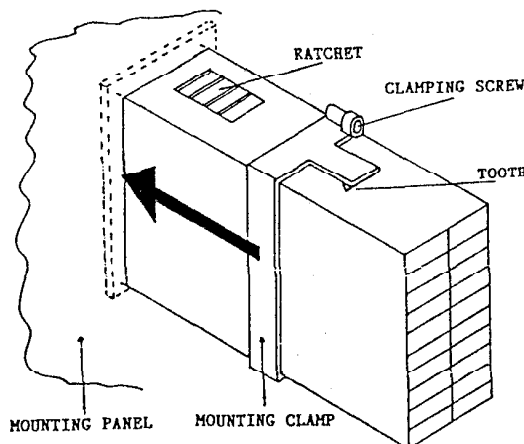

FIGURE 2-2 PANEL-MOUNTING A CONTROLLER
2. Slide the mounting clamp into place on the Controller (see Figure 2-2) and push it forwards until it touches the rear face of the mounting panel. The mounting clamp has teeth which project to the rear and these will engage in ratchets moulded into the top and bottom faces of the Controller housing.